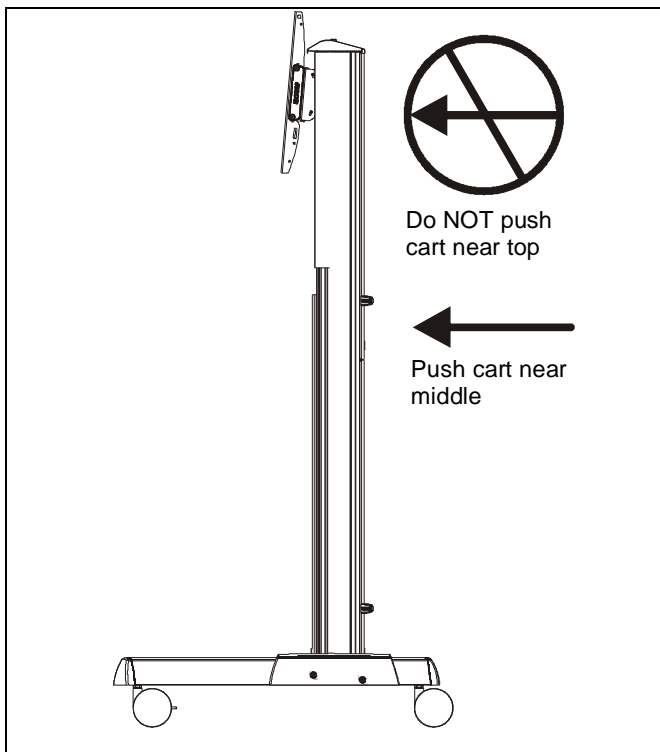

Figure 22
**WARNING: CART CAN TIP OVER RESULTING IN INJURY!** Do not allow children under 16 to move cart. Only adults should move this cart. Move cart slowly. Apply moving force on narrow dimension. Never apply force at top - always push toward the middle. Push, don't pull cart. (See Figure 22)